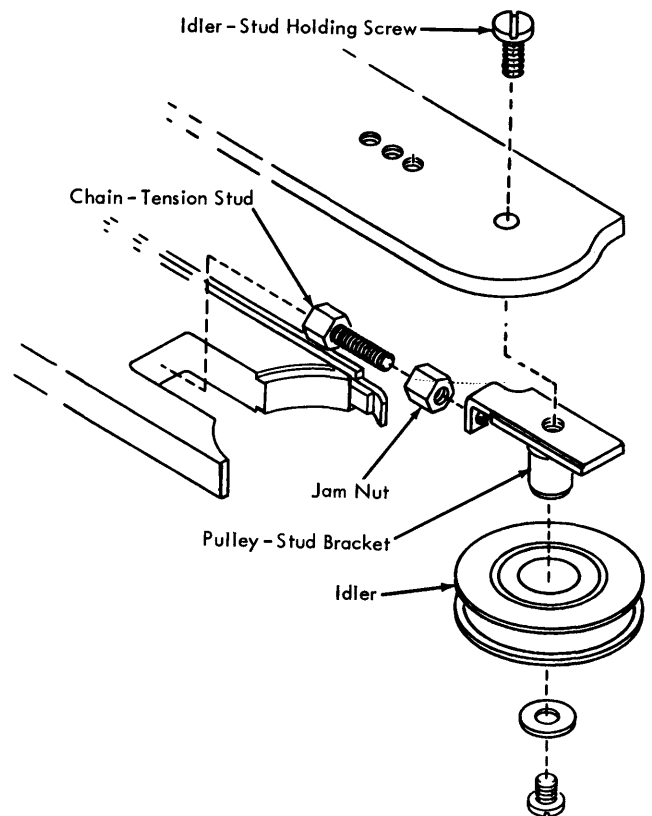

Figure 25. Chain Tension Device
1. Adjust and lock the chain-tension stud finger tight (Figure 25) to position the idler-pulley stud plate for chain tension sufficient to secure it to the drive sprocket and pulley.
- e. Adjust the tension by loosening the jam nut and turning the chain-tension stud (see Figure 25).